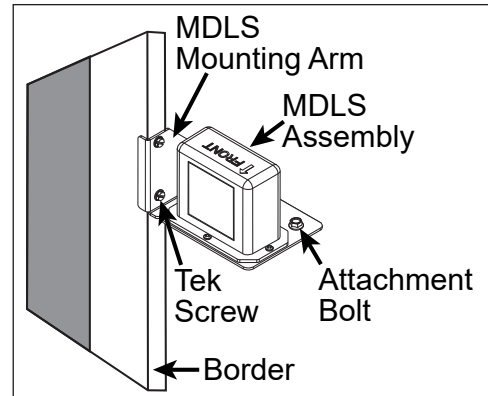
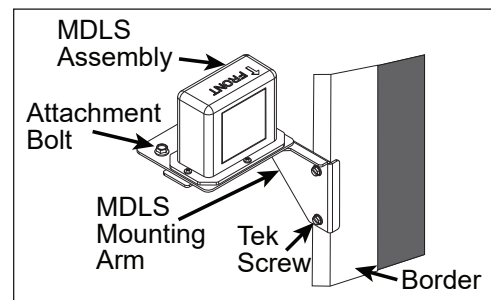

Figure 19: MDLS on Right Side of Display (From Front)
Figure 20: MDLS on Left Side of Display (From Front)
3. Loosen the attachment bolts that hold the MDLS assembly to the MDLS mounting arm. Refer to **Figure 19** and **Figure 20**.
5. Remove the two tek screws that secure the MDLS mounting arm to the border. Refer to **Figure 19** and **Figure 20**.